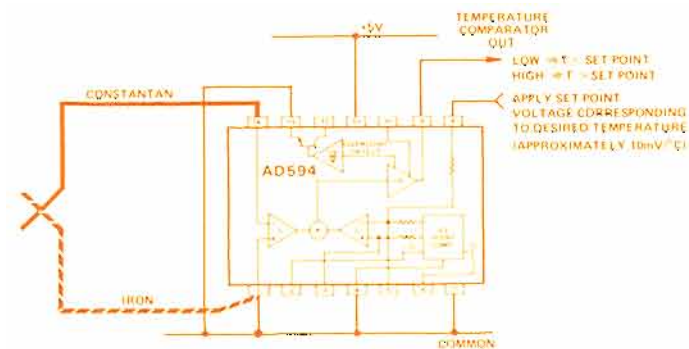

Figure 7. AD594 as a set-point comparator.
Alarm and Comparator Besides simple thermocouple cold-junction compensation and amplification, the AD594's alarm circuit may be connected to operate a TTL gate, a LED, a CMOS switch, or a relay to indicate an open thermocouple. If the feedback loop is opened, and voltage representing a set-point temperature is connected to the feedback input (FB), the AD594 will act as a binary comparator, providing about zero volts at temperatures below the set-point and 3.5 volts at higher temperatures (see Figure 7).